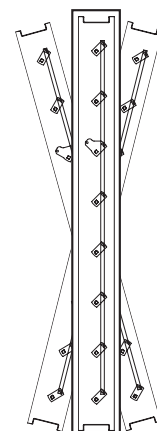

Figure 1
- 1) Dampers ordered with "nominal" sizing are undersized $\frac{1}{4}$ in. (6mm) to facilitate ease of installation. For example, a 12 in. x 12 in. (305mm x 305mm) nominal damper will measure $11\frac{3}{4}$ in. x $11\frac{3}{4}$ in. Dampers ordered with "actual" sizing are not undersized. The duct or barrier opening that the damper is being mounted in should be $\frac{1}{4}$ in. (6mm) larger than the damper dimensions in both width and height. The opening should also be straight and level (**Figure 1**).